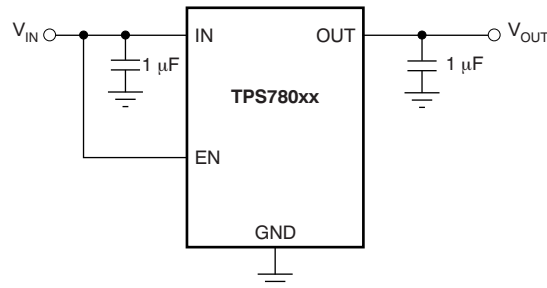

Figure 54. Circuit Showing EN Tied High When Shutdown Capability is not Required
The enable pin (EN) is active high and is compatible with standard and low-voltage CMOS levels. When shutdown capability is not required, connect EN to the IN pin, as shown in Figure 54.